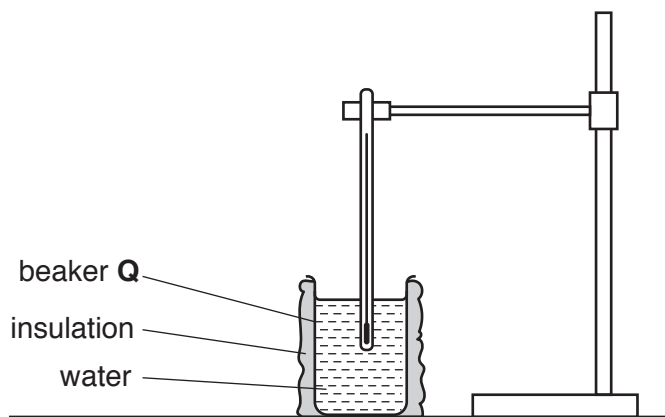

Fig. 2.2
- (c) Pour  $200\text{ cm}^3$  of the hot water supplied into beaker Q. Place the thermometer in the hot water as shown in Fig. 2.2.